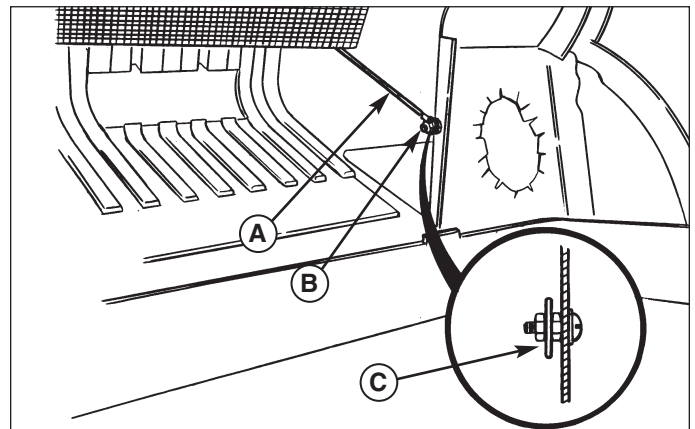
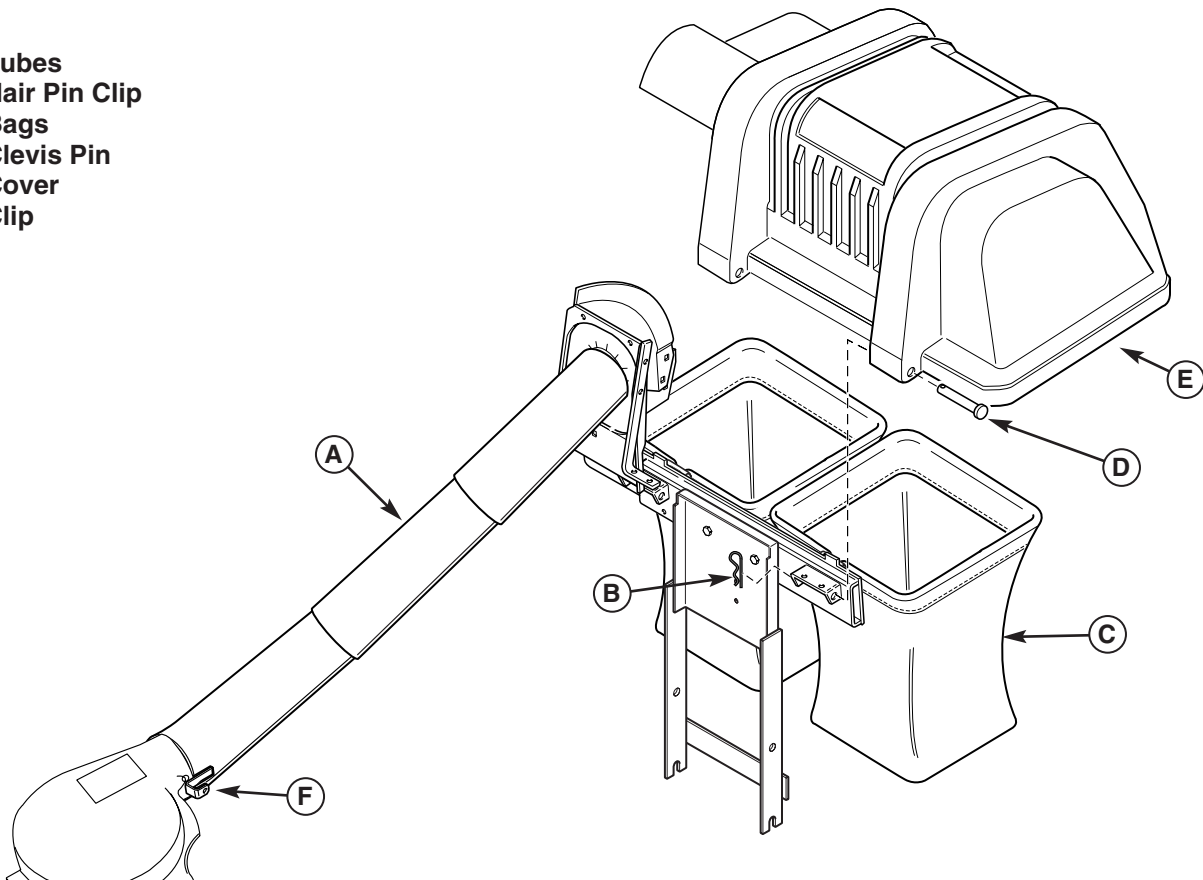

Figure 8. Install Cable
Figure 9. Normal Removal & Installation
2. Install the handle (B) inside the cover. Secure with two #10-32 x 1/2 screws (C) and nuts (A).
3. Rest the cover assembly (D) on the bags (F).
4. Install the two hinge pins (E) and secure with hair pin clips (G).
5. Open the cover and fasten cable (A, Figure 8) to support (B). The looped cable end fits over washer (C).
1. Disconnect the tubes (A, Figure 9) from the turbo and remove them from the catcher.
2. Remove the hair pin clip (B, Figure 9) and clevis pin (D) securing the cover (E). Disconnect the cable (see Figure 8). Remove the cover (E).
3. Remove and empty the bags (C, Figure 9).
4. Connect the cover cable (Figure 8).